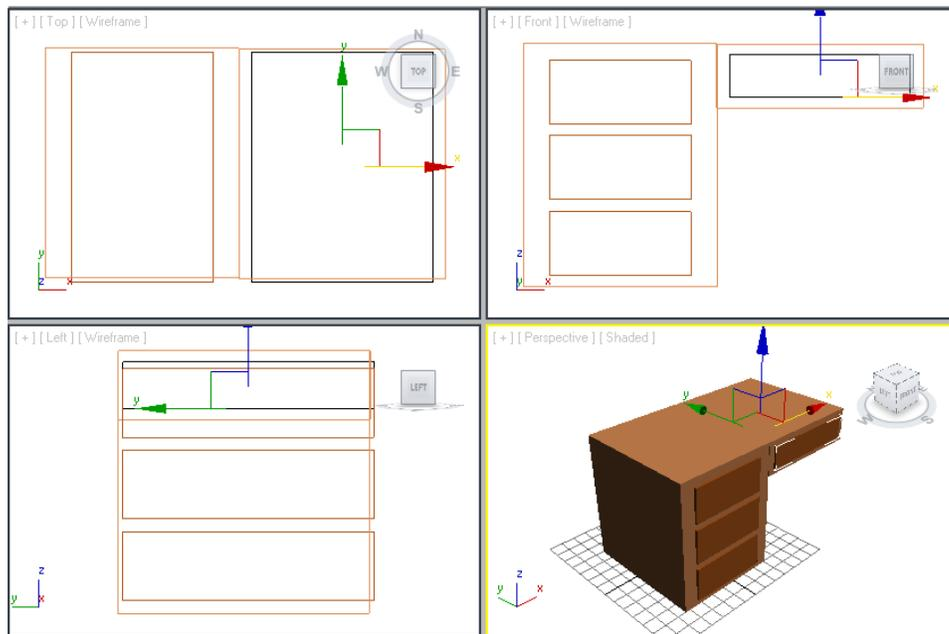

Figure 2-46 The *drawer004* aligned in all viewports
5. Align the *drawer004* with the right side of the box in all viewports, as shown in Figure 2-46.